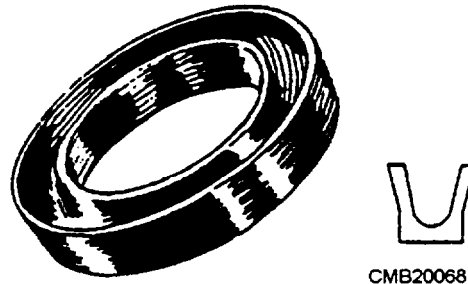

Figure 3-46.—Typical U-cup seal.
**U-CUPS.**—The U-cup (fig. 3-46) is a popular packing due to its ease of installation and low friction. U-cups are used primarily for pressures below 1,500 psi; but, they can be used for higher pressures with the use of backup rings. When more than one U-cup is installed, they are installed back to back or heel to heel. This back-to-back installation is necessary to prevent a pressure trap (hydraulic lock) between two packings.